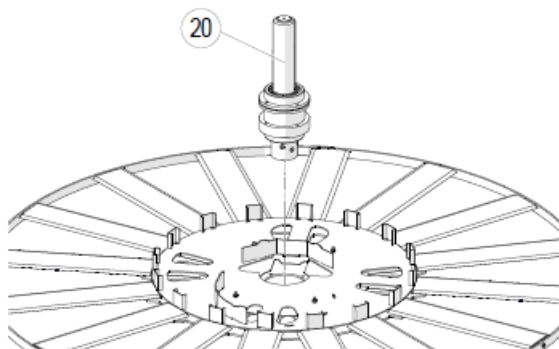

Fig. 9: Rotary Joint
1. Change the rotary joint (see Fig. 9).